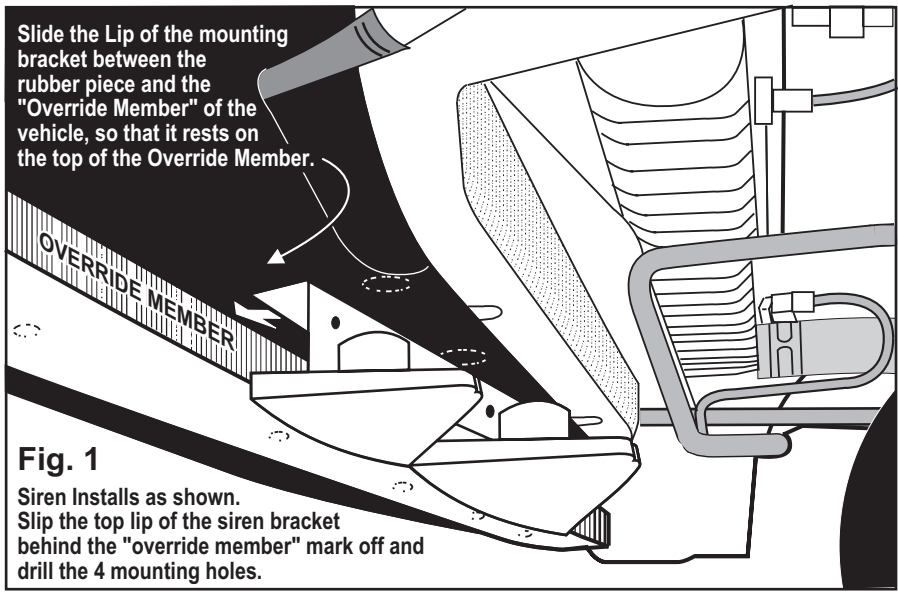

Fig. 1
1. Locate the 4 pop rivets toward the front of the vehicle shown in Fig. 1.